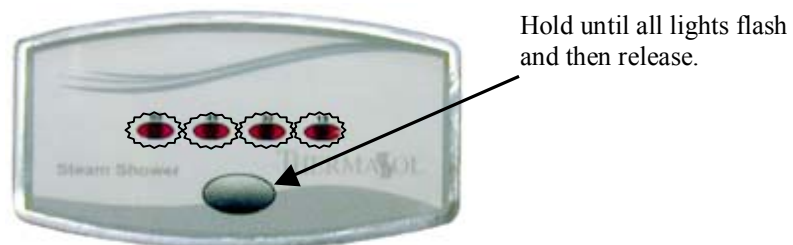

Figure 6
5. **Auto PowerFlush.** (If option is ordered on the steam generator) To activate the inner tank cleaning system, press “STEAM” to turn on the unit then press and hold the “STEAM” button until all four LED’s flash, then release. Powerflush will begin in two minutes and the complete cycle will last 45 minutes, **see figure 6.**